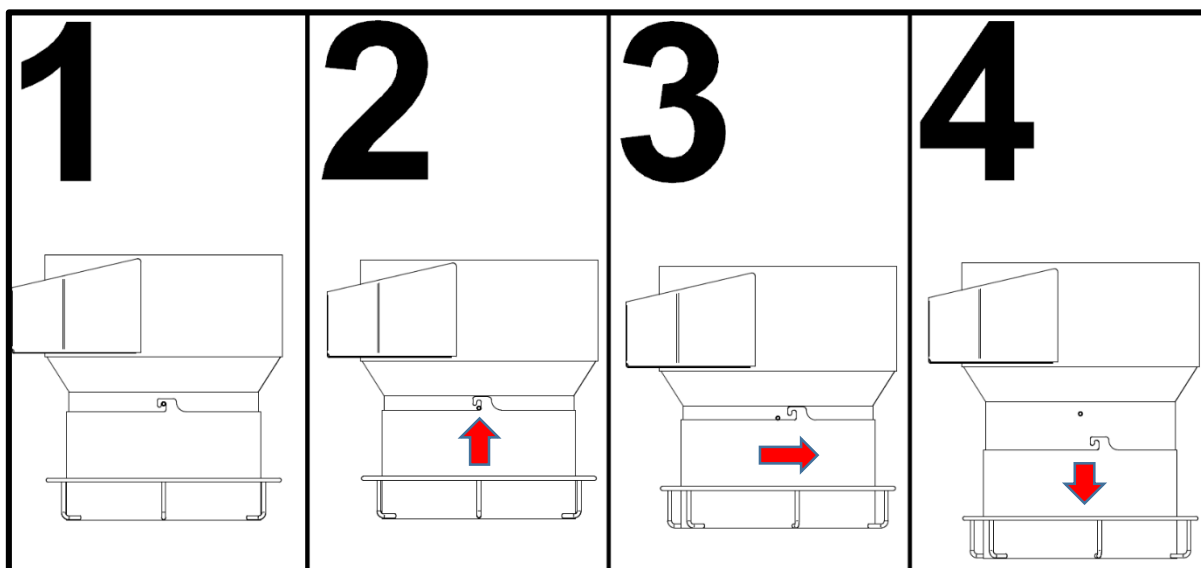

Figure 7.7
1. At **fig. 7.7 pos. 1**, you can see the locked position of the LONGOPACK® plastic bag holder and to take it off you should:
- Lift the holder upwards about 10-15mm to unlock it **fig. 7.7 pos.2**;
- Rotate the holder enough that you can bring it down and take it off from the filter chamber **fig. 7.7 pos.3**;
- Take off the holder **fig. 7.7 pos.4**;
2. After you install the new bag, you need to attach the holder back to the filter chamber by following the steps from fig. 7.7, performing it backwards.